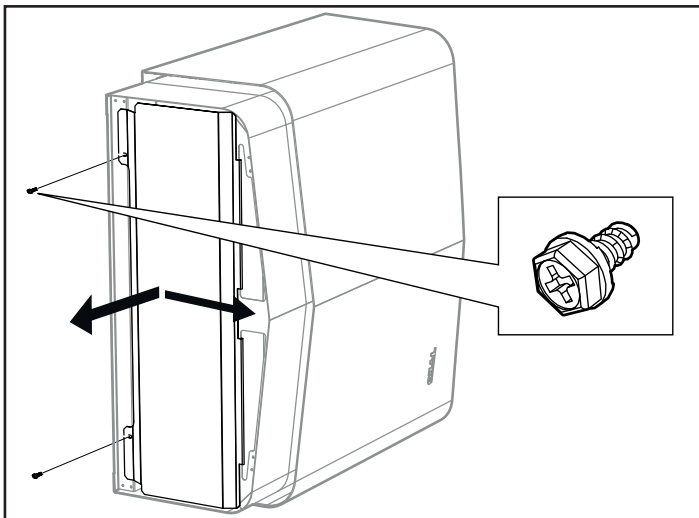

Figure 15: Opening/closing the cover
1. Undo the screws and open the cover (see Figure 15).
- 4. Close the cover and tighten the screws (see Figure 15).